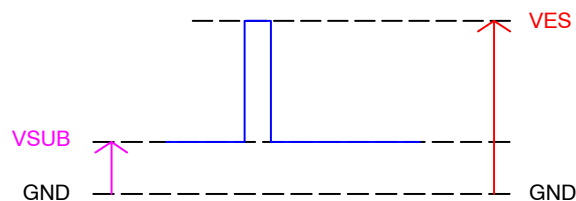

Figure 18. Substrate and Electron Shutter Reference to Ground
- Figure 18 shown below shows the DC bias (VSUB) and AC clock (VES) applied to the SUB pin. Both the DC bias and AC clock are referenced to ground.